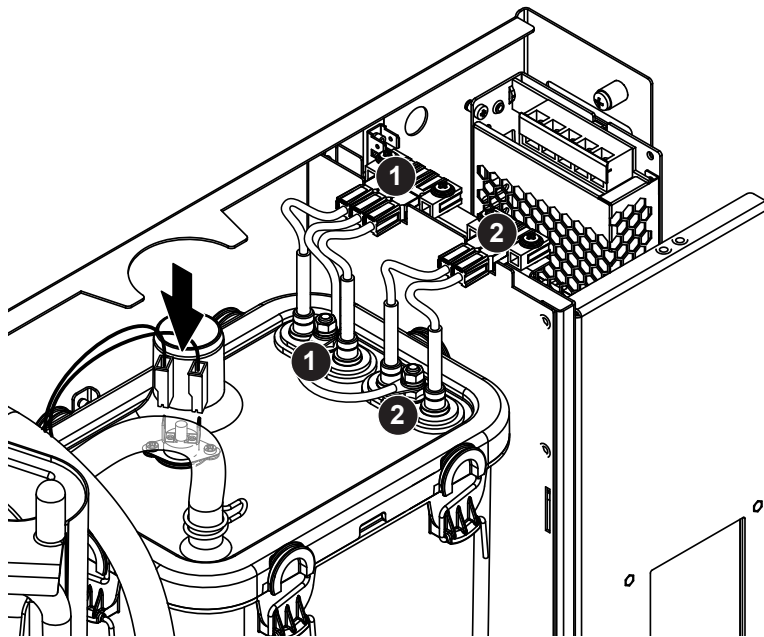

Fig. 7: Connection allocation of the heating cables
- Connect heating cable plugs into the corresponding sockets (see Fig. 7).
- Attach connecting cables to the connectors of the overtemperature switch(es) (see Fig. 7).